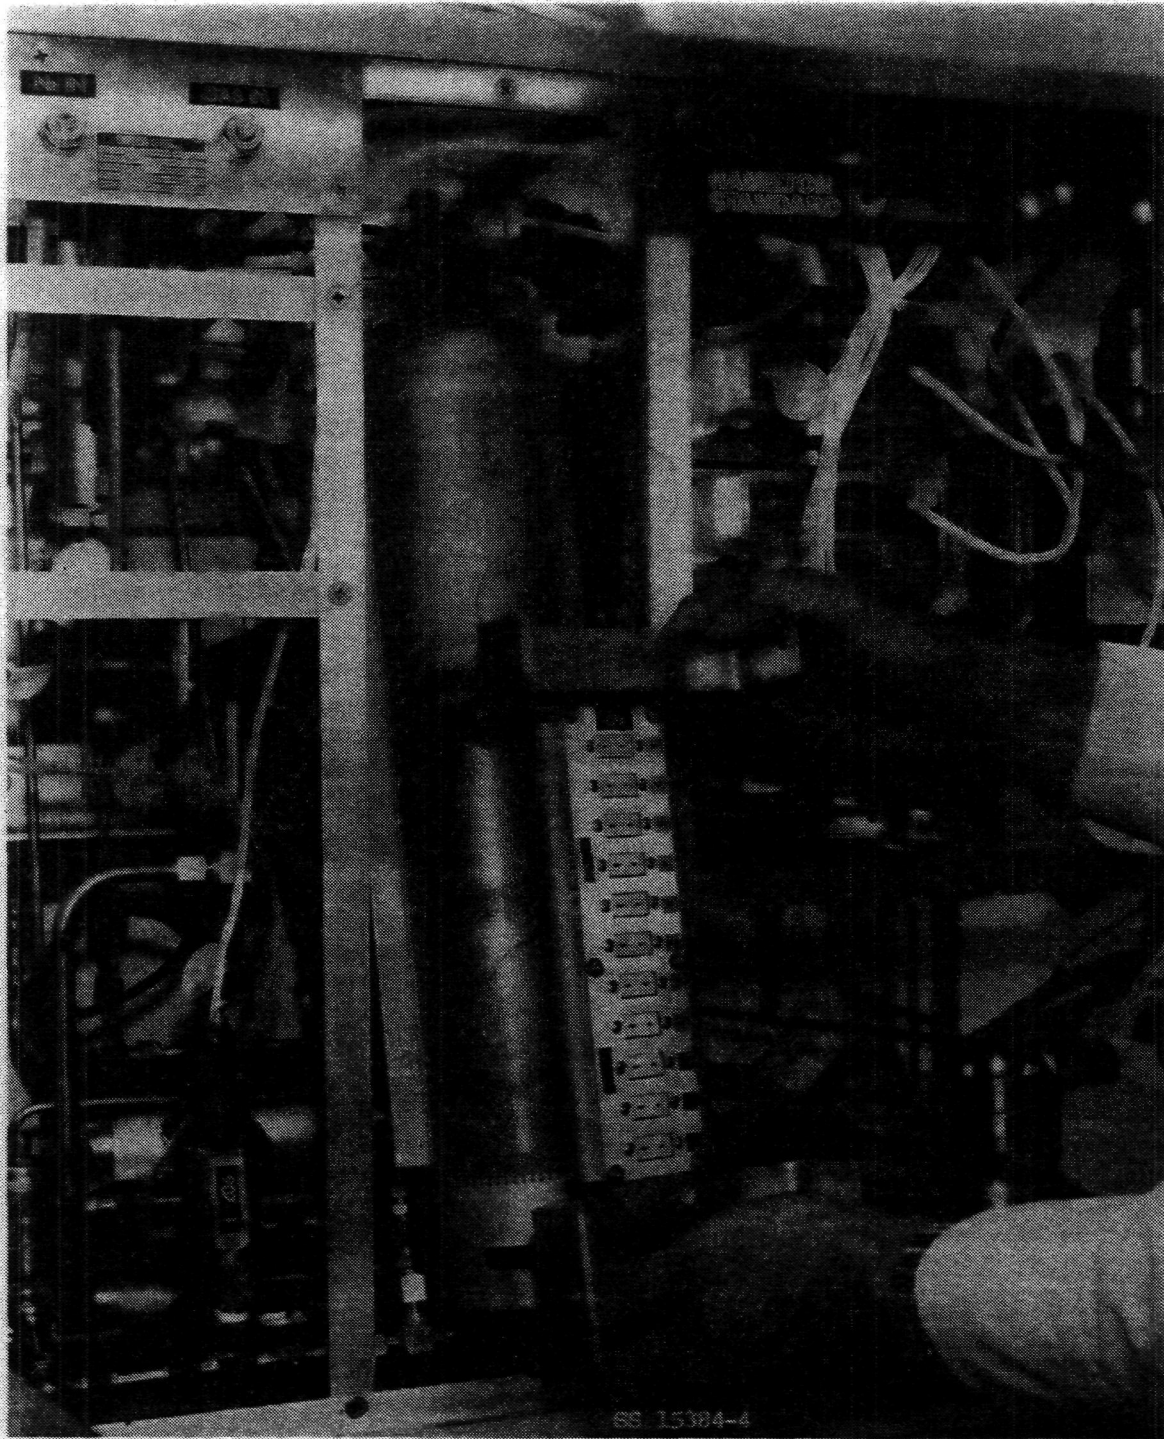

FIGURE 13
8. Slip reactor assembly out through frame support members as shown in Figure 13. Use care so as not to damage reactor core thermocouple wires.
1. Insert reactor assembly through frame support members as shown in Figure 13. Use care so as not to damage reactor core thermocouple wires.
6. Connect the reactor cooling air outlet line tube fittings (2) using two (one for support) 7/8" Open End wrench.